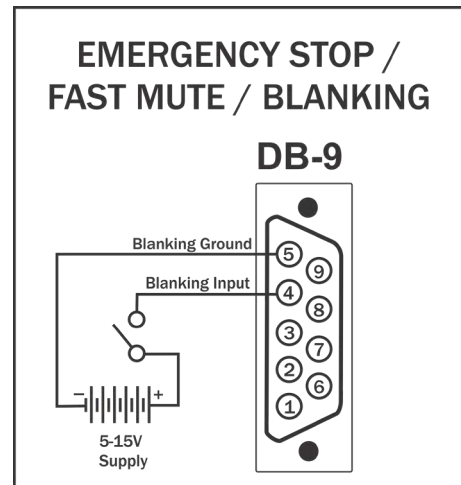

Figure 6.4 – Emergency Stop/Fast Mute/Blanking Application Wiring on DB-9 Control Port
**Method:** Assert 5-15VDC between Pin 5 (Blanking Ground) and Pin 4 (Blanking Input) to activate the blanking feature. See **Figure 6.4**.